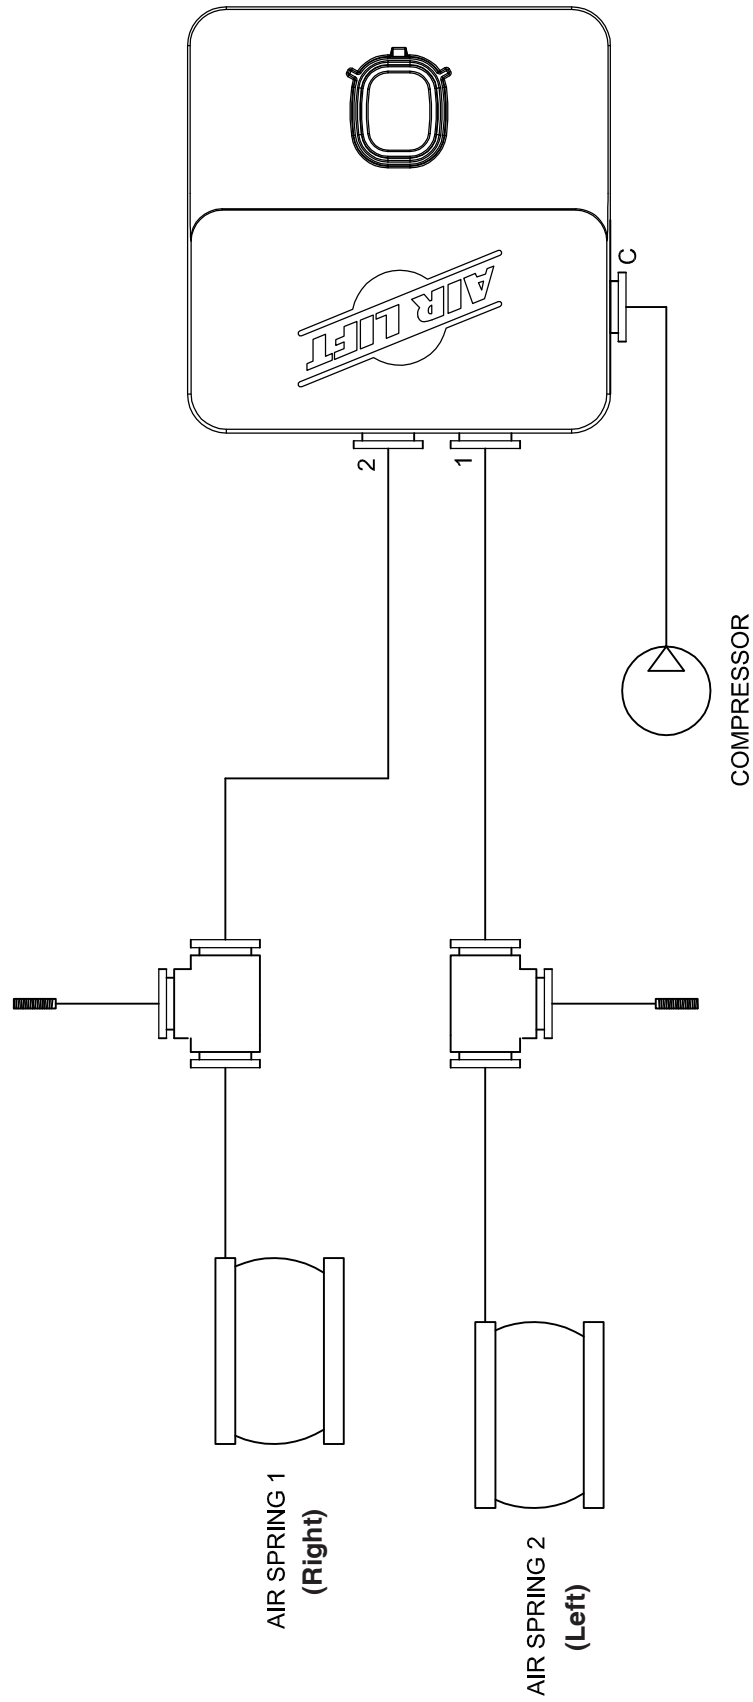

fig. 4
- a. Cut a section of DOT ¼" hose (H) to the necessary length to reach from the compressor leader hose to the manifold port "C". (fig. 4)
- a. Cut a section of hose (H) and route from the manifold port 1 to the previously installed LEFT spring inflation hose.
- i. Cut the inflation hose at an accessible location and insert T-Fitting (U).
- b. Cut a section of hose (H) and route from the manifold PORT 2 to the previously installed RIGHT spring inflation hose.